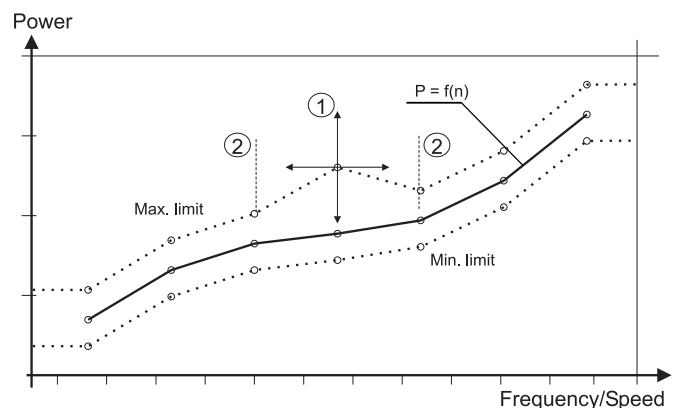

Figure 4.9 Refitting the setpoints
The automatically placed setpoint band may subsequently be fitted to suit the application - see figure 4.9.
Each setpoint is movable vertically (Power value) and horizontally (Frequency value) (1) - see figure 4.9. The Power value may be chosen freely in the range of 0-100%. The frequency value - however - must lie between the frequency values of the setpoint before and after (2).